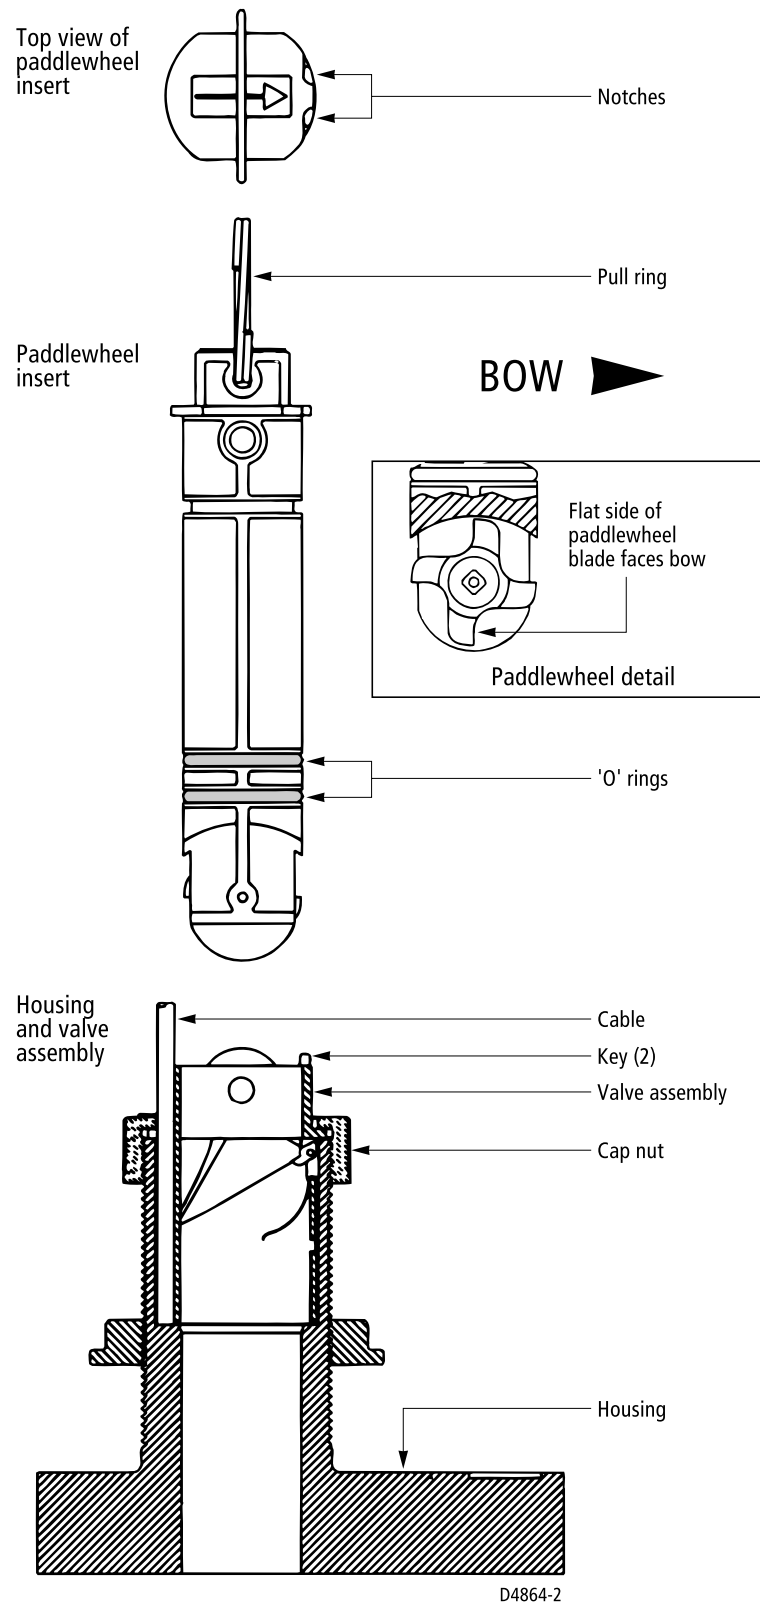

Figure 2-16: Servicing the Paddle Wheel Insert and Valve Assembly
11. After the sealant cures, inspect and lubricate the O-rings on the paddle wheel insert with silicone grease or petroleum jelly (see Figure 2-16).
1. Drill a 1/8" (3 mm) pilot hole perpendicular to the waterline from inside the hull. If there is a rib or strut near the selected mounting location, drill from the outside (see Figure 2-16). If the hole is drilled in the wrong location, drill a second hole in a better location. Apply masking tape to the outside of the hull over the incorrect hole and fill it with epoxy.